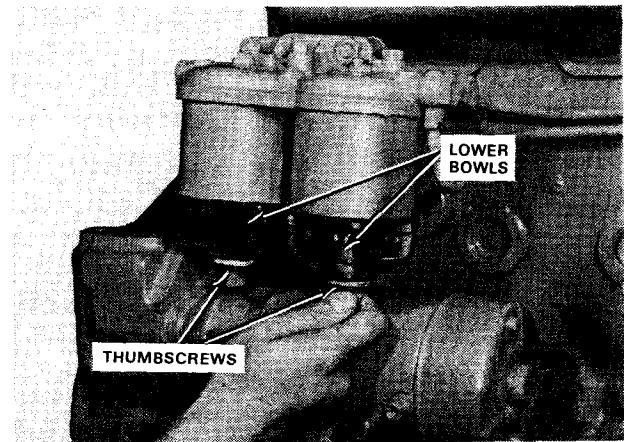

FIG. 27 Draining In-Line Fuel Filters (SSD-655)
1. Loosen the thumbscrews located at the bottom of the lower bowls of both fuel filters (Fig. 27).